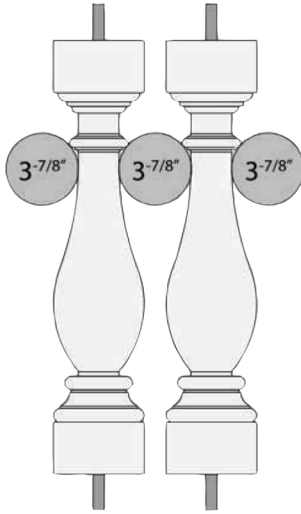

Figure 2
3. Determine How Many Spindles You Need for Each Section (Figure 2)